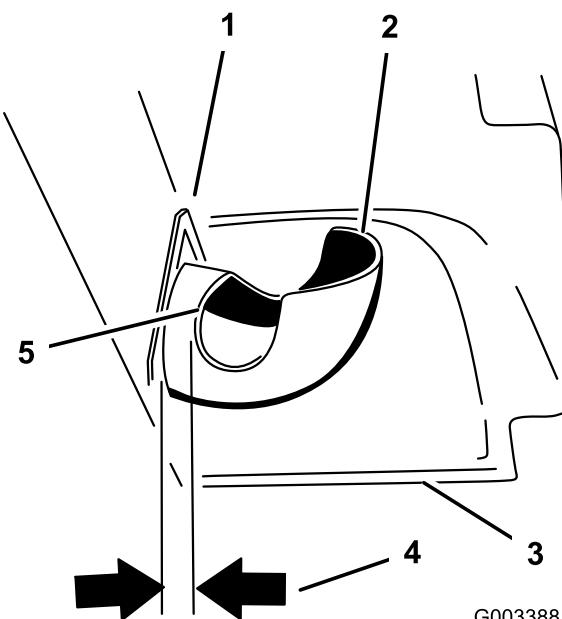

Figure 23
6. Measure the distance the tube is inside the hood. Measure from the hood plate to the edge of the tube as shown in Figure 23. This distance needs to be 3/4 inch (19 mm).